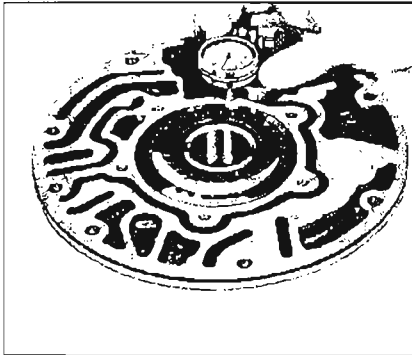

Figure 5-197
a. Install pump on converter hub. With dial indicator set check end clearance. The clearance allowed is .0005/.0035. See Figure 5-197.